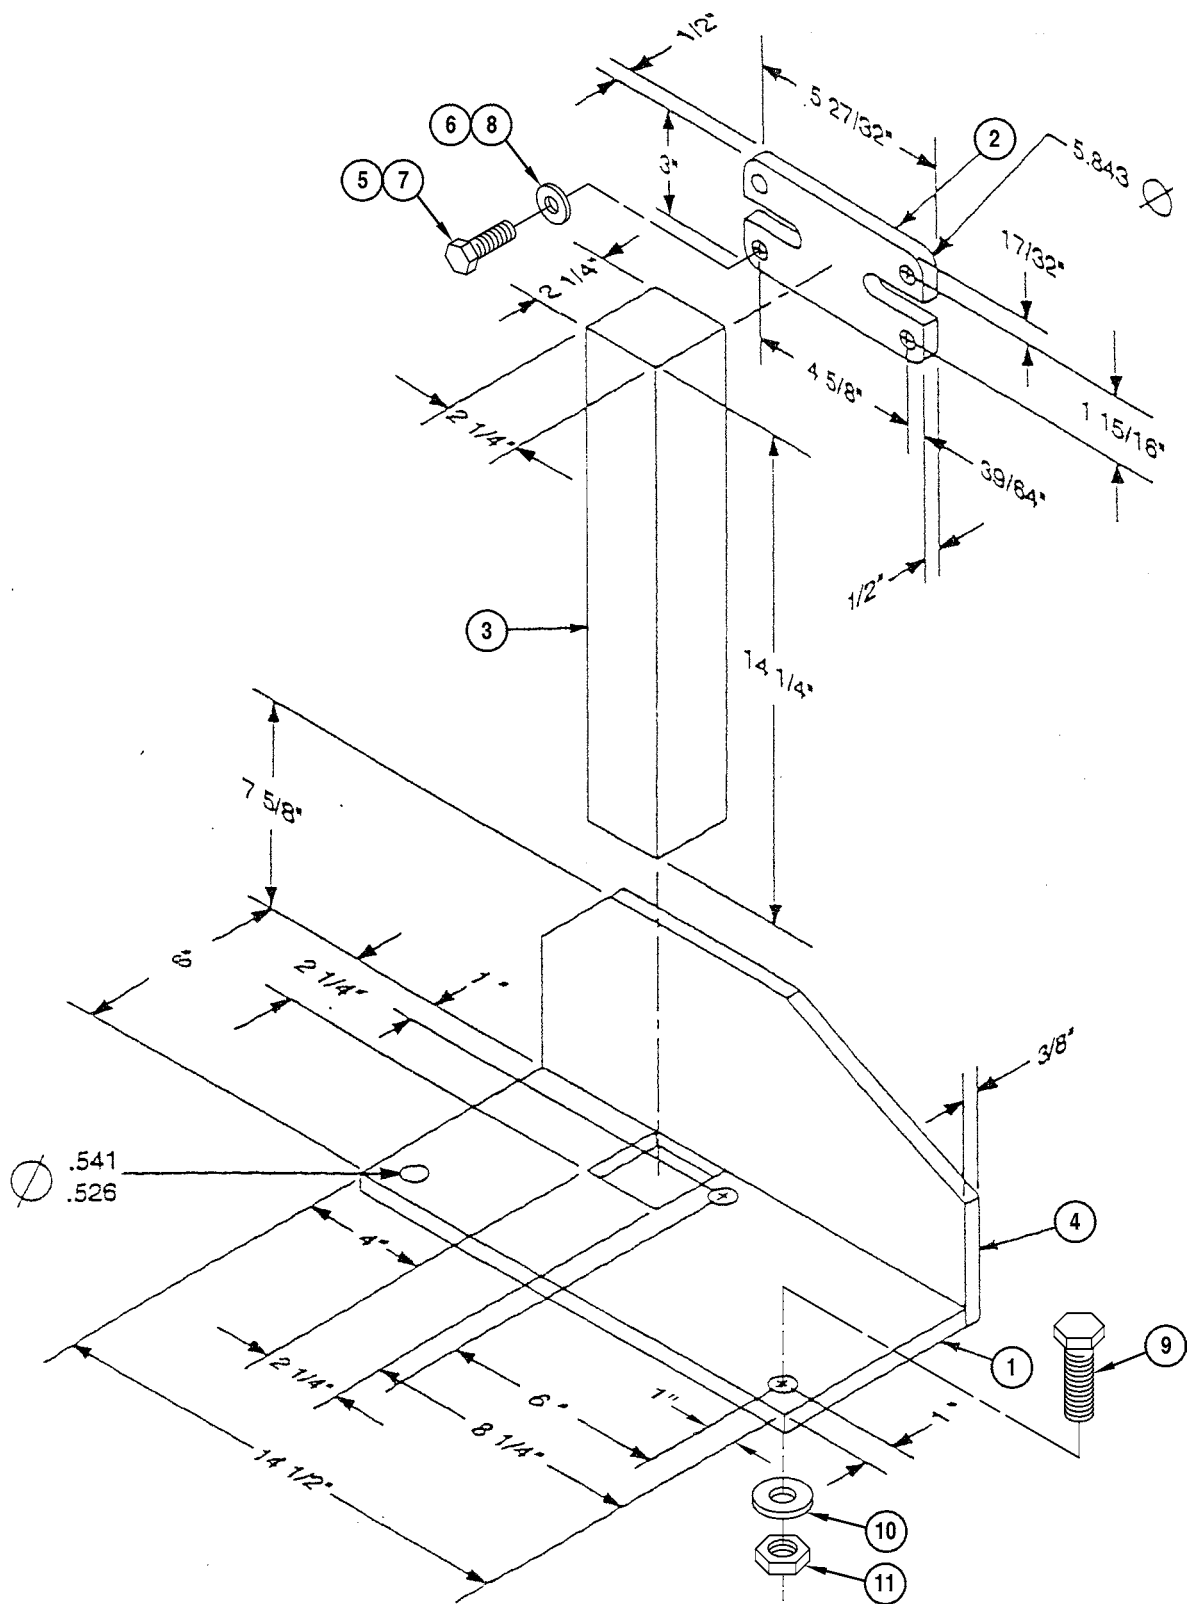

Figure 2-27. Transmission Stall Test Tool
- Cut one 6- by 14-1/2- by 3/8-inch steel plate (1). Scribe a line 8-1/4 inches from the end of plate (1). Scribe another line 2-1/4 inches from the first scribe line. See Figure 2-27.
- Scribe a line 2-1/4 inches from the side of 3/8-inch steel plate (1). See Figure 2-27.
- Cut 2-1/4-inch square where scribed lines meet on 3/8-inch steel plate (1).
- Drill a 17/32-inch hole next to the square one inch from the side and six inches from the end of 3/8 inch steel plate (1).
- Drill two 17/32 inch holes one inch from the end and one inch from the side of 3/8-inch steel plate (1). See Figure 2-27.
- Cut 7-5/8- by 14-1/2- by 3/8-inch steel plate (4). Cut the corners of as shown in Figure 2-27.
- Weld 3/8-inch steel plates (1) and (4) per Figure 2-27.
- Make a 3- by 5-27/32-inch plate (2). Drill four holes and round off corners to match the transmission yoke. See Figure 2-27.
- Cut 2-1/4 inch by 2-1/4 inch block steel (3) 14-1/4 inch long. See Figure 2-27.
- Weld 1/2-inch steel plate (2) to end of 2-1/4 inch block steel (3) at the same height as the transmission yoke.
- Weld 2-1/4 inch block steel (3) after inserting into square in 3/8-inch steel plate (1).